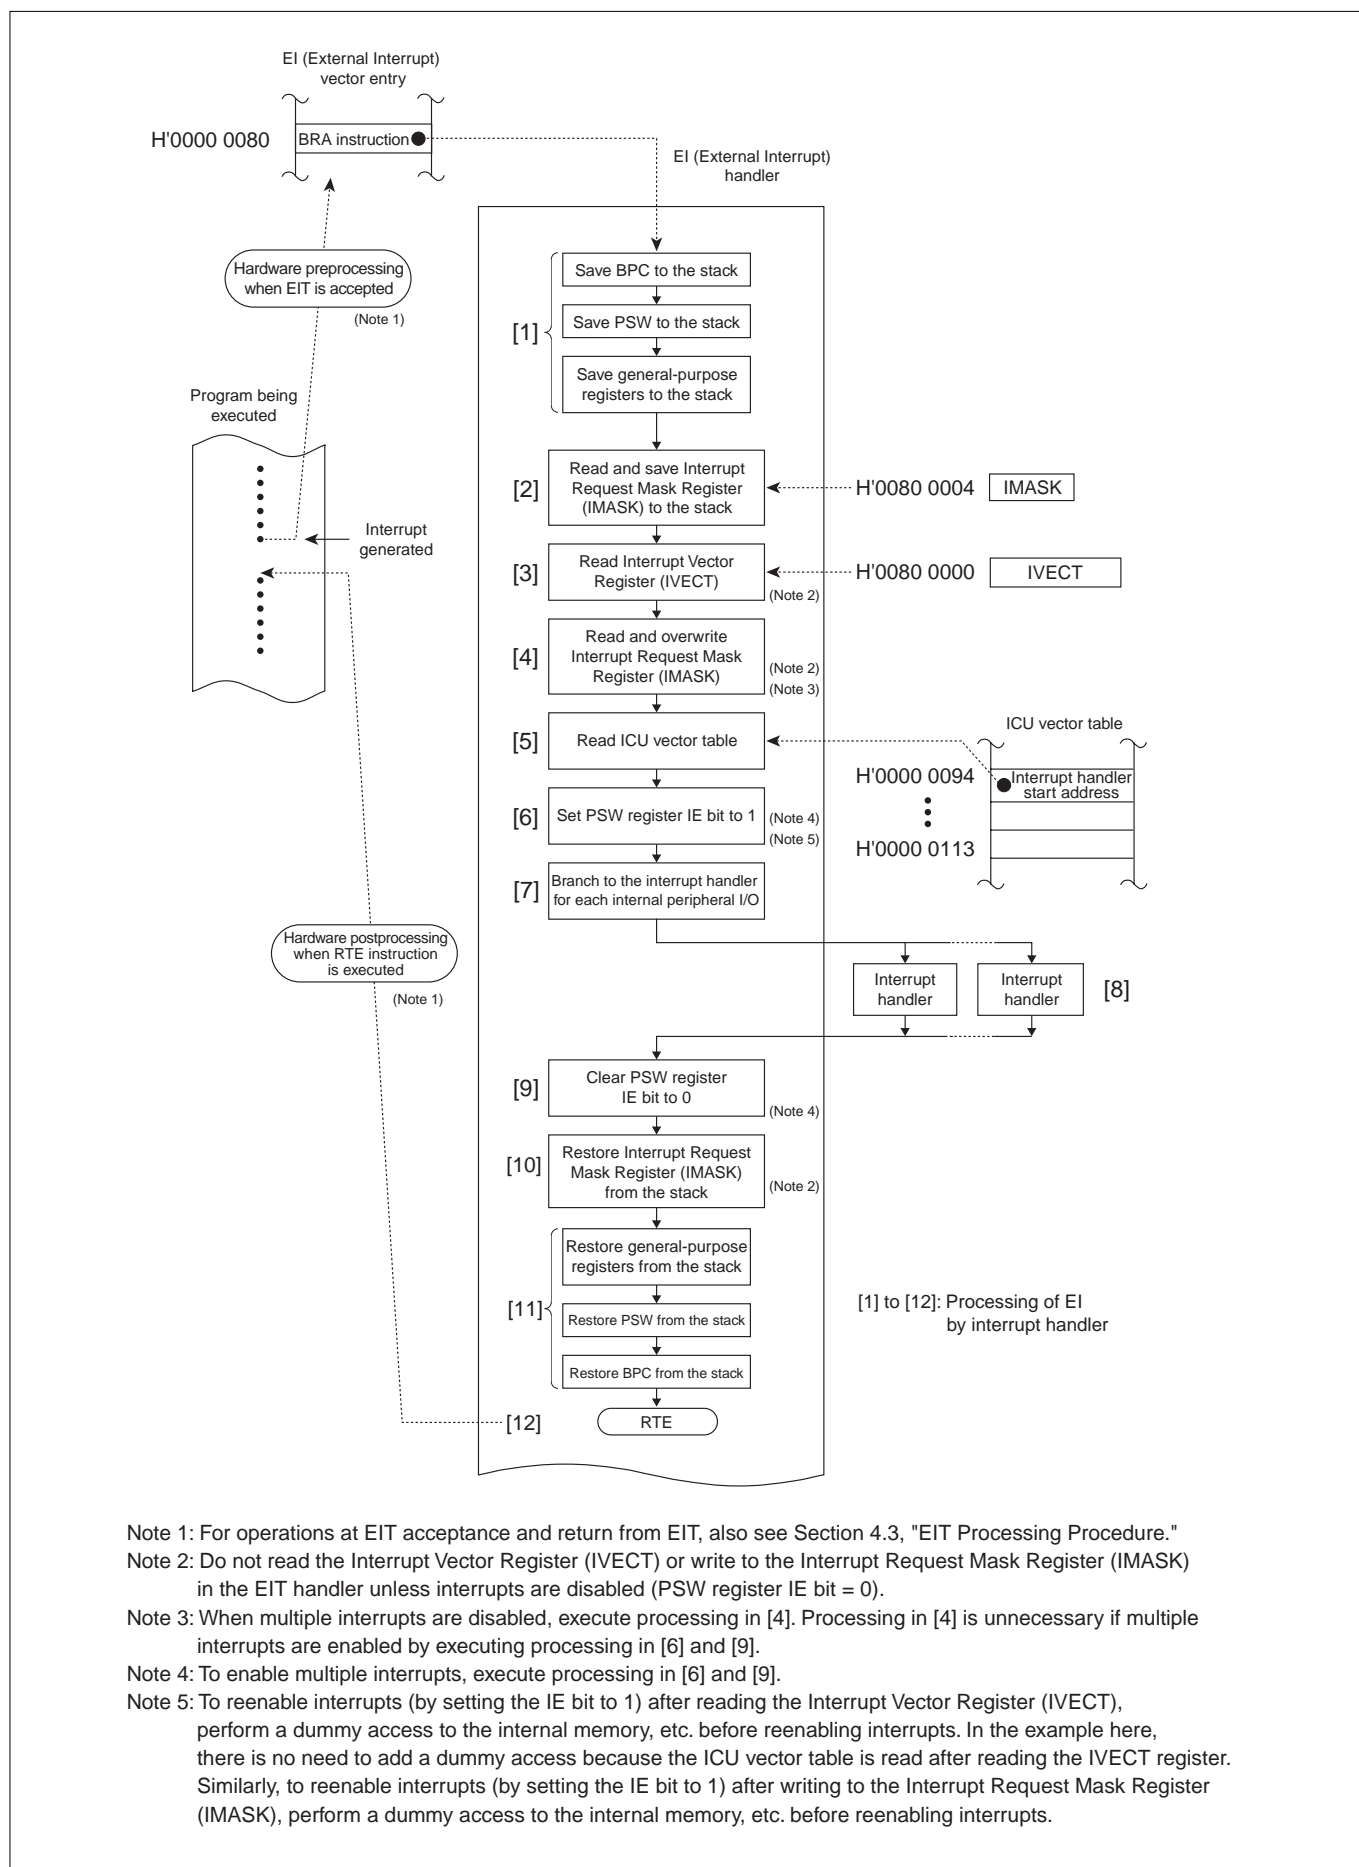

Figure 5.5.2 Typical Handler Operation for Interrupts from Internal Peripheral I/O
A typical operation of the External Interrupt (EI) handler (for interrupts from internal peripheral I/O) is shown in Figure 5.5.2.
Note: • Before enabling multiple interrupts, read the Interrupt Vector Register (IVECT) and then the ICU vector table, as shown in Figure 5.5.2, "Typical Handler Operation for Interrupts from Internal Peripheral I/O."